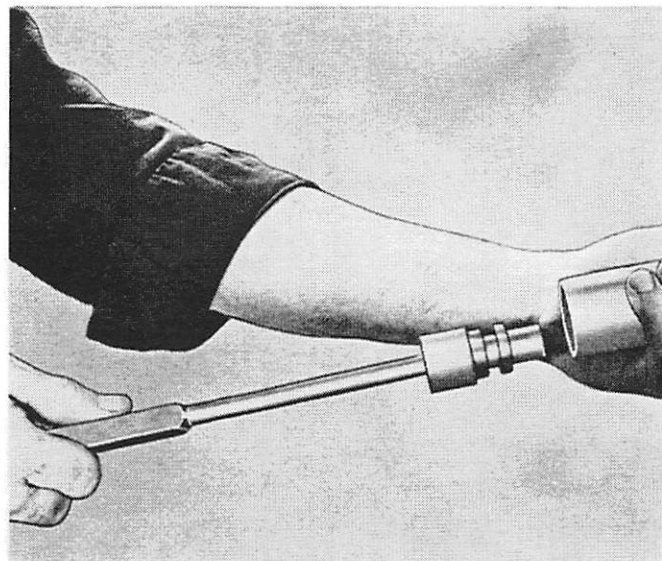

Figure 9. Installing Crankshaft Oil Seal
4. Press oil seal in place from bottom of pivot tube flush with end of crankcase with Center Main Bearing and Lower Seal Tool (91-24282), cap on end of tool. (Figure 9)